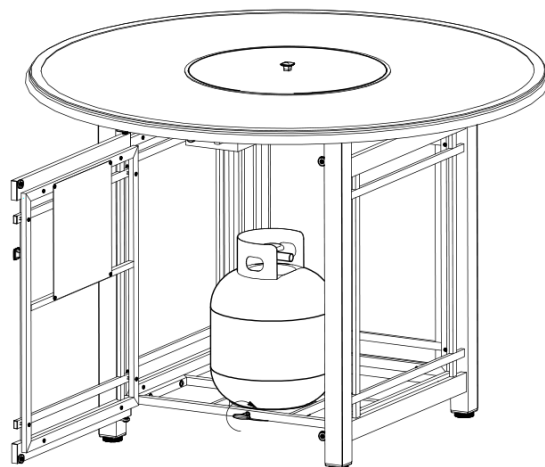

Fig. 3
- Use the rotation knob (#1) to position the tank in the tank rack. (Fig. 3)